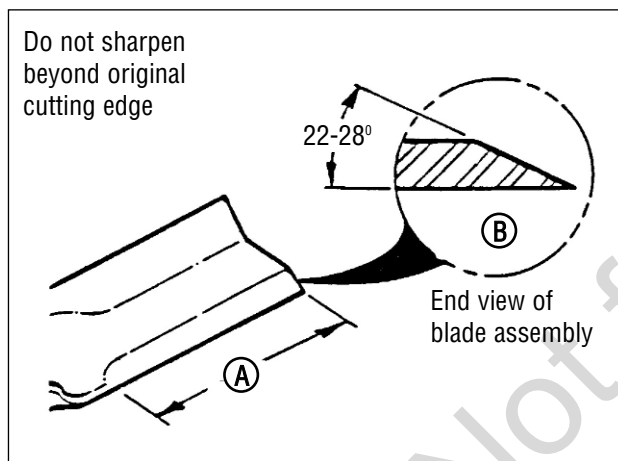

Figure 21: Sharpening the mower blade
- Sharpen the blade on a grinding wheel at an angle of 22 to 28 degrees (B, Figure 21). DO NOT sharpen the blade beyond the original cutting edge (A).